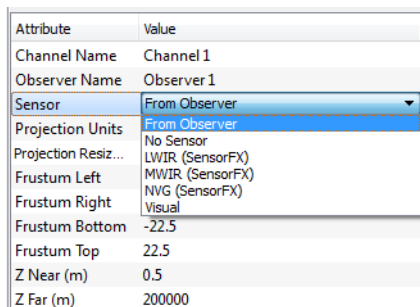

Figure 1-4. Sensor list
4. Select a sensor from the list (Figure 1-4).